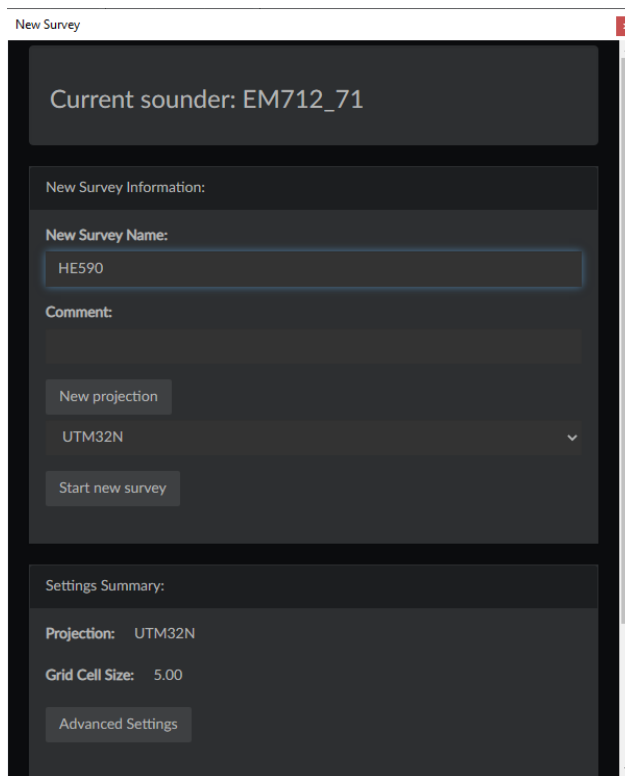

Figure 8: Basic parameters display
- **New survey name:** Enter a unique new survey name descriptive to the survey (Figure 8).